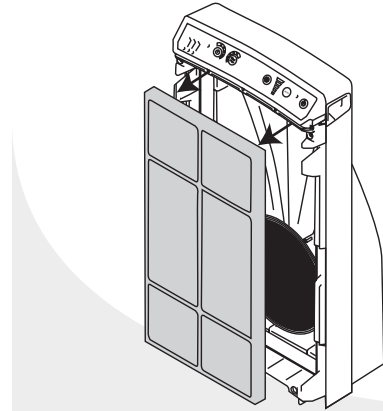

FIG. 5
5. **Remove** the Odor Filter by pulling straight out (Fig. 5).